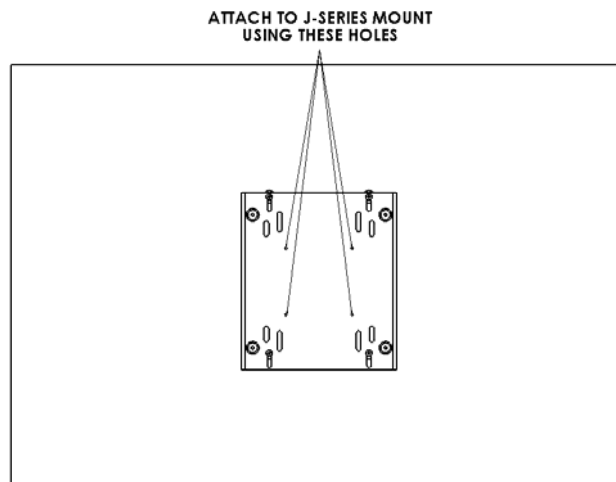

Figure 6
- J-Series Mounting:** Per mount instructions, use the 100mm x 100mm tapped holes on bracket to attach screen to J-Series mount (see Figure 6).